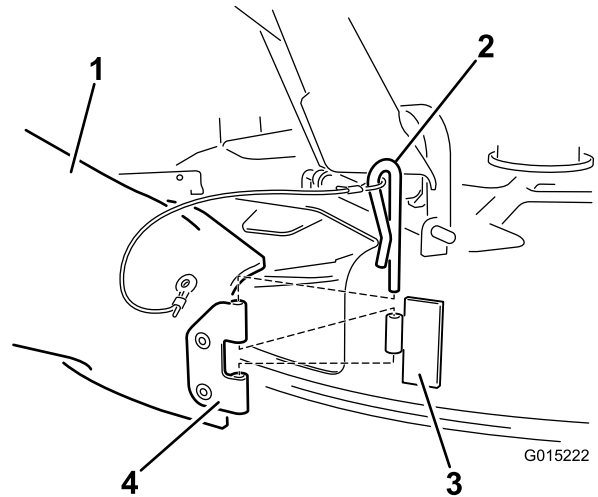

Figure 26
4. Locate the chute in the loose parts. Align the holes in the hinge on the chute with the hinge on the deck (Figure 26).